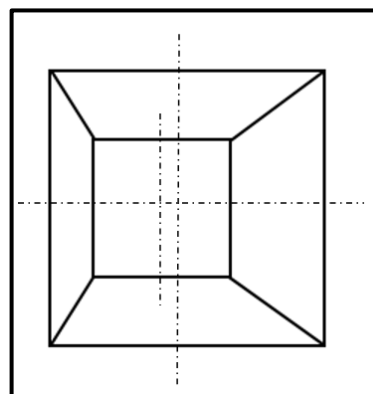

FIGURE 4.14
4.14 Identity the type of hopper shown in FIGURE 4.14 below.